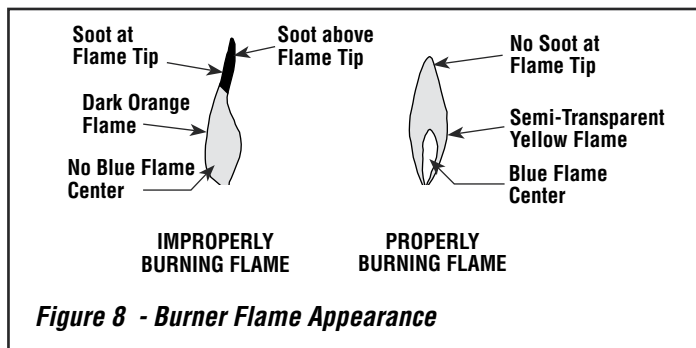

Figure 8 - Burner Flame Appearance
3. Allow the burner to operate for at least fifteen (15) minutes while observing the flame continuously to ensure that the proper flame appearance is achieved (**Figure 8**). If the following conditions are present, adjust accordingly.